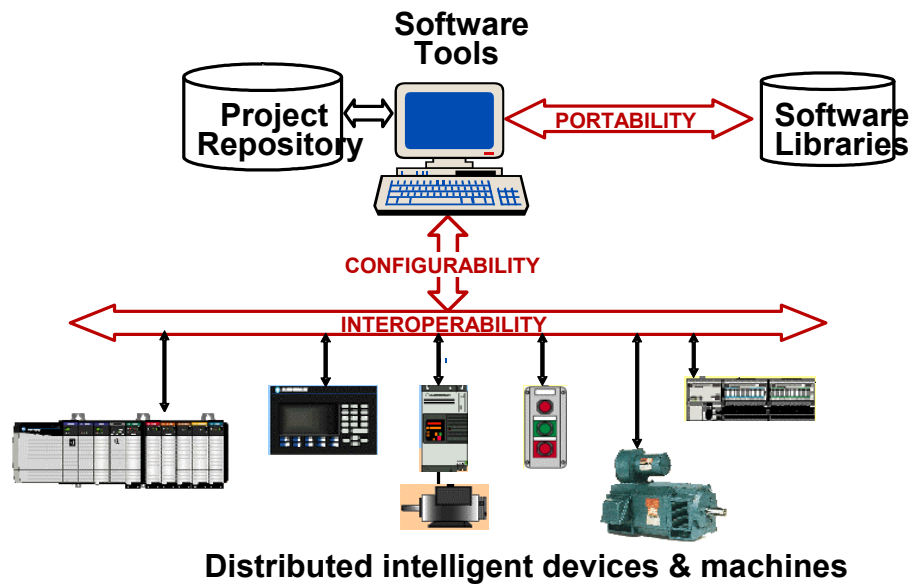

Figure 1. Components in a distributed control process
Figure 1 is illustrative of a distributed control development platform for IEC 61499. Components on the network are intelligent devices with their own microprocessor and network drivers. Components communicate peer-to-peer and deliver timely information for the functioning of the overall system. Control software is configurable using a standard library of function blocks (FB) that can be assembled in a plug-and-play fashion to develop the control programs that will run on the individual devices. Standard function blocks for communication among devices enable peer-to-peer communication.